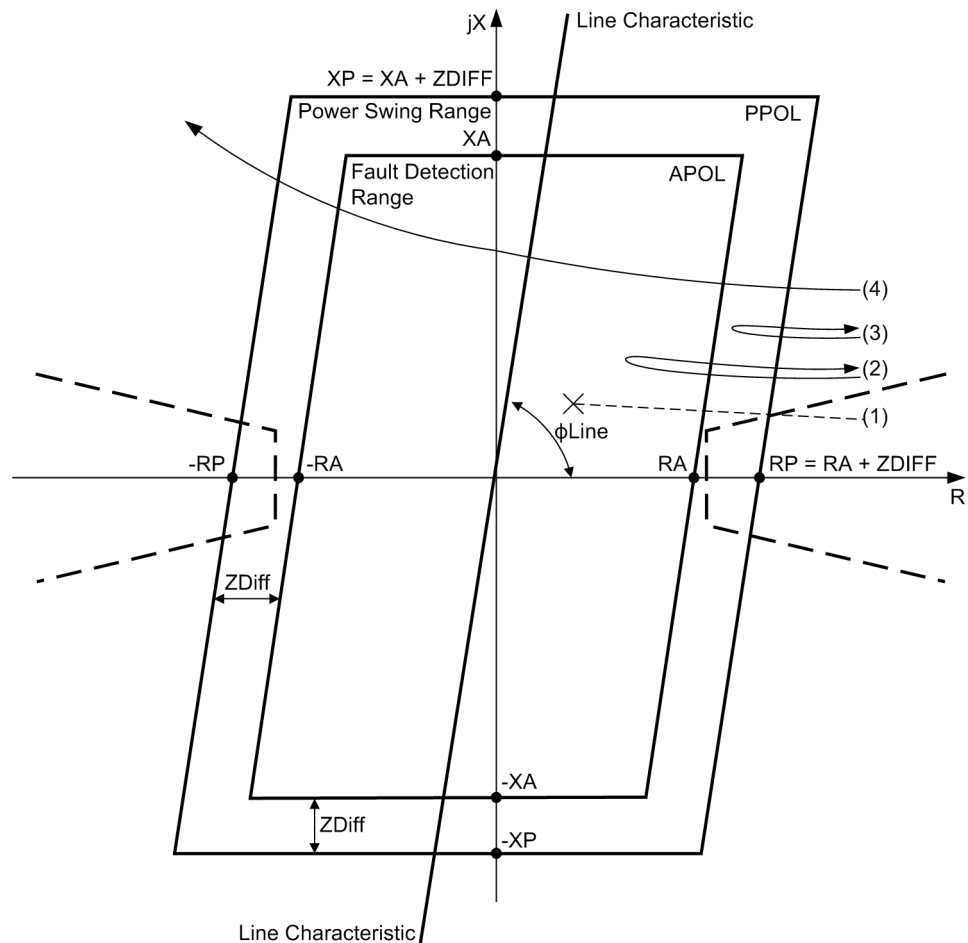

Figure 2-61 Pickup characteristic of the power swing detection for a polygon.
To detect a power swing, the rate of change of the impedance vectors is measured. The message is triggered when the impedance vector enters the power swing measuring range PPOL (refer to Figure 2-61) and the other criteria of power swing detec-
When the impedance vectors identified by the power swing detection exit the power swing characteristic PPOL, the sign of the R components in the vectors are checked to see if they are the same on exiting and entering the pickup polygon. If this is the case, the power swing process is inclined to stabilize. Otherwise, the vector passed through the power swing characteristic (loss of synchronism, case (4) in Figure 2-61). Stable power transmission is then no longer possible. The device outputs an alarm to that effect (No. 4163 „P.Swing unstab.“), provided that the parameter in address 2006 **PowerSwing trip** is set to **NO**. The alarm No. 4163 „P.Swing unstab.“ is a pulse with a duration of approx. 50 ms, which can also be processed further via output relay, e.g. for a cycle counter or a pulse counter.